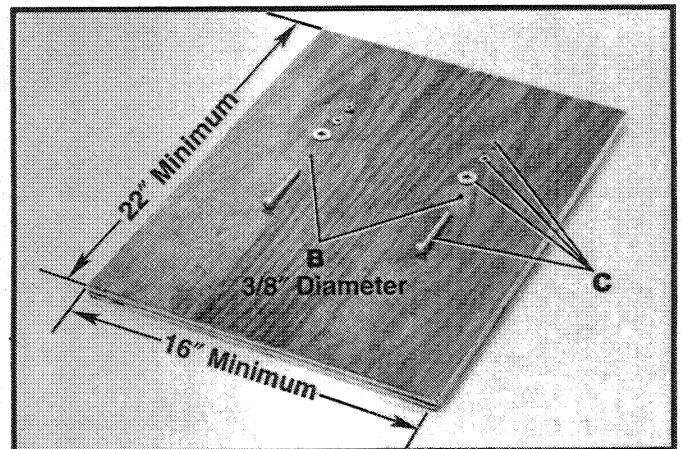

Fig. 18
1. Drill two 3/8" diameter mounting holes (B) Fig. 18, in a 16" x 22" minimum size plywood board.
2. Fasten the drill press base to the mounting board using the carriage bolts, nuts, and washers (C) Fig. 18, furnished with your drill press. The carriage bolt heads must be countersunk such that the bolt heads are flush with the bottom surface of the mounting board in order to guarantee proper stability.